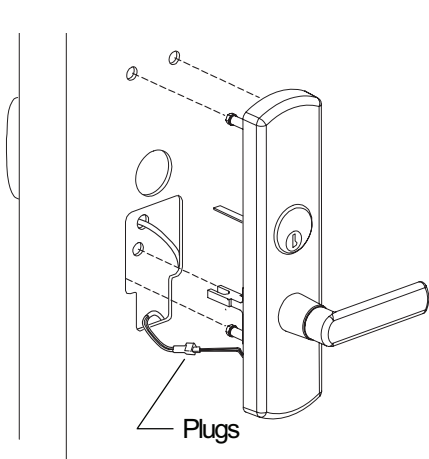

Figure 12-1
12.1. Connect trim plug and cable plug (Figure 12-1).